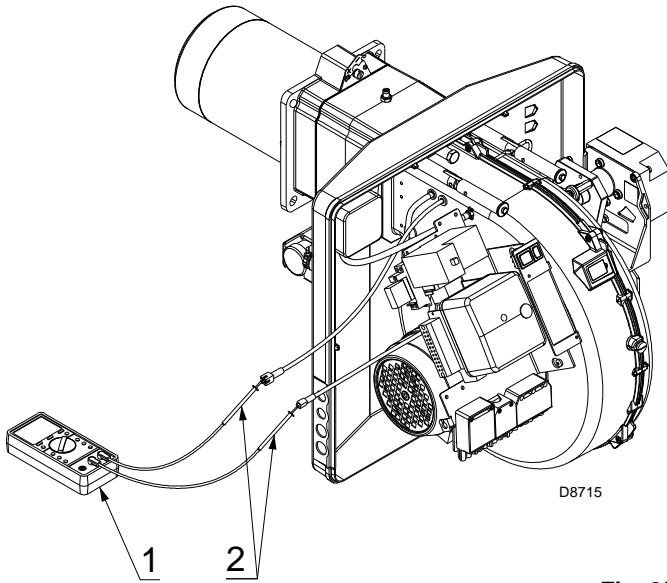

Fig. 35
However, if it is necessary to measure the ionisation current, disconnect the plug-socket (2)(Fig. 35) on the ionisation probe cable and insert a direct current microammeter (1)(Fig. 35) with a base scale of $100 \mu\text{A}$.